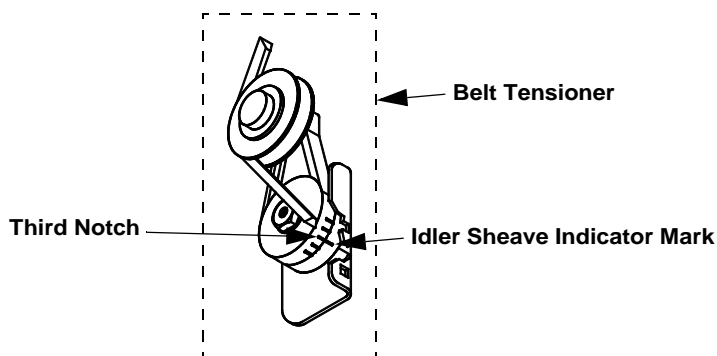

Figure 31. Idler Sheave Indicator Mark
- Check Belt Tension. The Belt should be tensioned just tight enough to minimize Belt slippage. Over tensioning the belt will cause premature Belt and Bearing wear. With a new Belt the Idler Sheave indicator mark should line up with the third notch in the Tensioner Housing (See **Figure 31**).